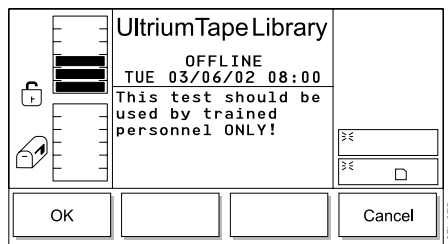

Figure 285. Step Dialog
- Press the button below the **Step** softkey. The Step Dialog displays a reminder that this diagnostic should be used by trained personnel only (see Figure 285).